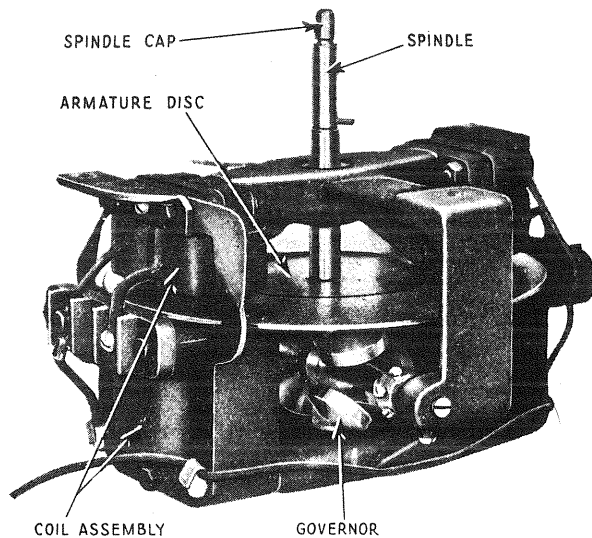

Figure 10—Phonograph motor mechanism
- (c) Turning the speed regulating screw (Figure 10) clock-wise allows the motor to run faster and vice versa. Adjust by trial until the speed is 78 revolutions per minute as determined from a full minute's count.
- (c) Release the round head machine screw and the two hexagon head machine screws holding the coil unit, which is to be replaced, to the motor frame. (See Figure 10).
- (b) Unscrew governor bearing screw in Figure 10.
- (f) After assembling the motor the lock nuts around the spindle adjusting screw, Figure 10, should be loosened and the spindle adjusting screw should be adjusted until the motor disc turns freely in the center of the air gap of the coil units.